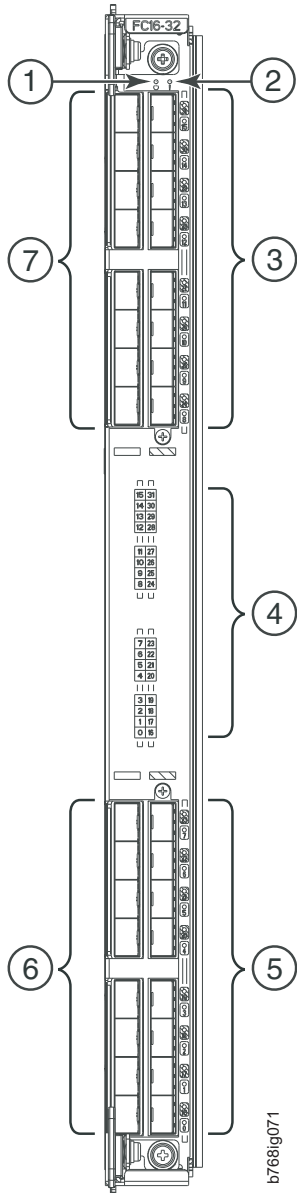

Figure 54. FC16-32 port blade
- Figure 54 on page 178 shows an FC16-32 port blade